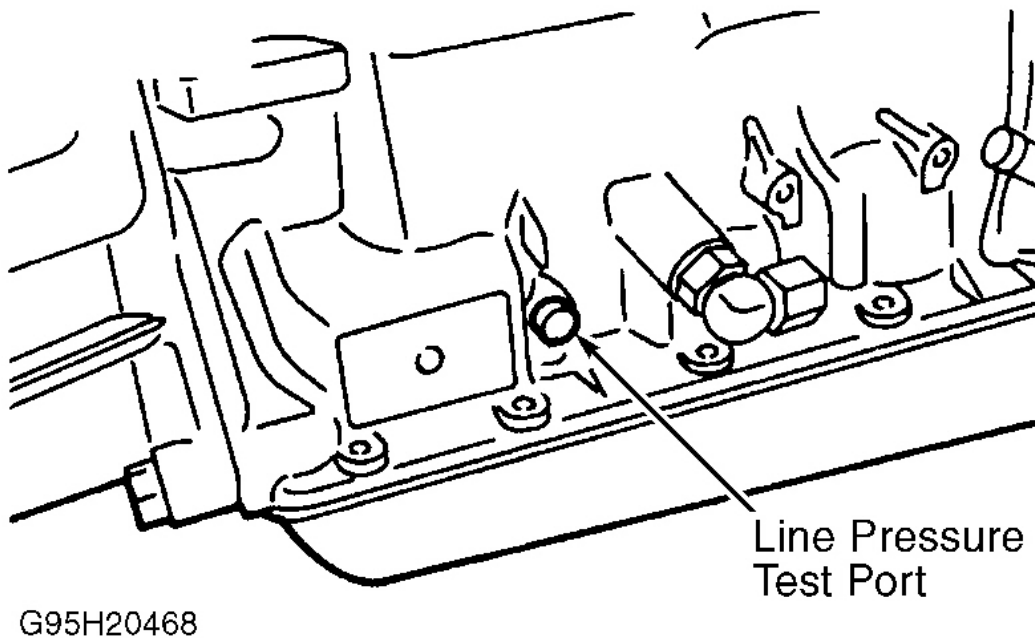

Fig. 9: Identifying Transmission Hydraulic Pressure Test Port
1. Ensure transmission fluid is at normal operating temperature. Connect pressure gauge to line pressure test port on transmission. See **Fig. 9**.